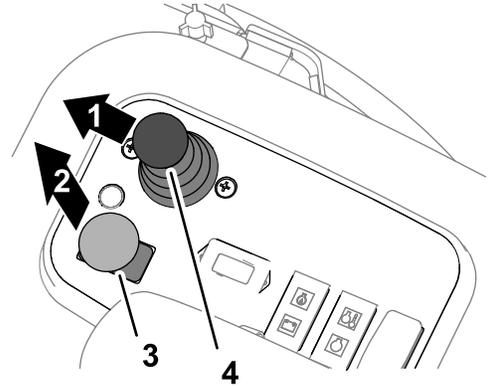

Figure 100
3. Move the lower mow/raise control lever forward (Figure 100).